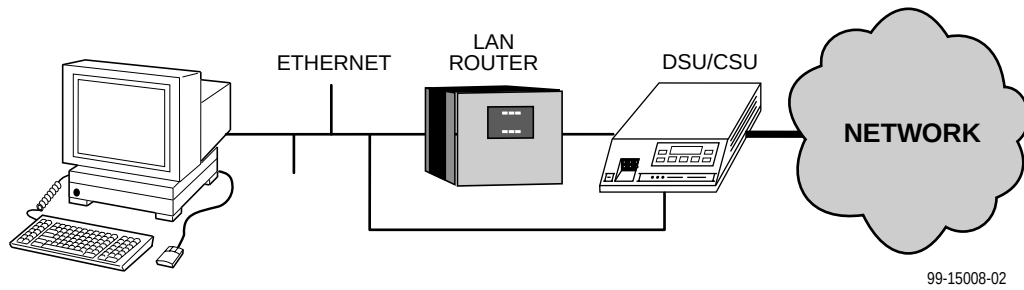

Figure 2-6. Connection through the 10BaseT Port
- Connecting to an Ethernet LAN through the 10BaseT port (Figure 2-6, Connection through the 10BaseT Port).